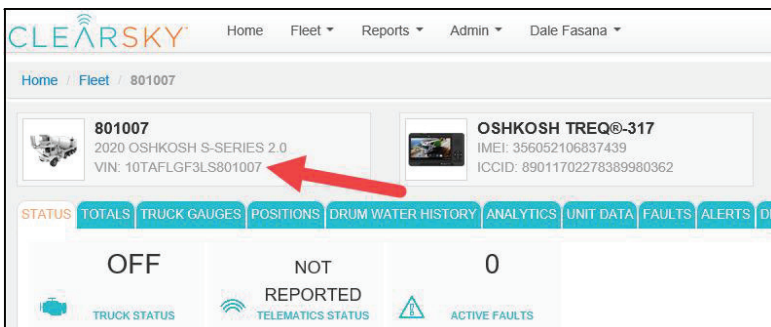

Figure 33
- 67. Make sure the truck VIN displayed in the information box in the upper left corner of page is correct. See Figure 33.